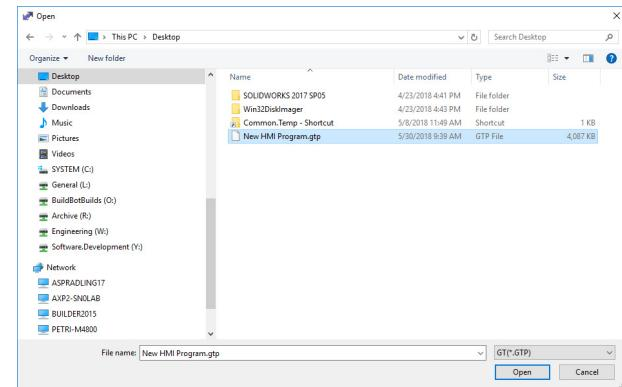

Figure 7
13) Click the **Browse** button  to locate the new HMI code file. (Figure 7)
14) Select the file and click the **Open** button (specific .GTP file may have different name). (Figure 7)